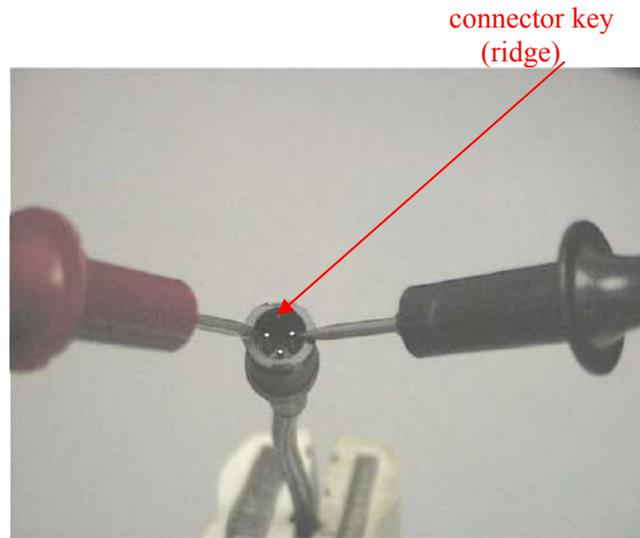

Figure 1
Step 2. Verify capacitance measures according to the following picture (**Figure 1, page 12-3**) and chart (**Chart A, page 12-3**).
- A. Measure the capacitance of the transducer at the extension cable plug end that exits the motor coil cord (PD/AP and Genesis models) or footpedal (Maxxum foot-control models) using your capacitance meter as per **Figure 1**. Touch the red and black probes from your capacitance meter to the correct pins on the plug (transducer + and -). For proper orientation, be sure the connector key (ridge) is at the top of the plug as in **Figure 1, page 12-3** (just above and between the red and black probes).